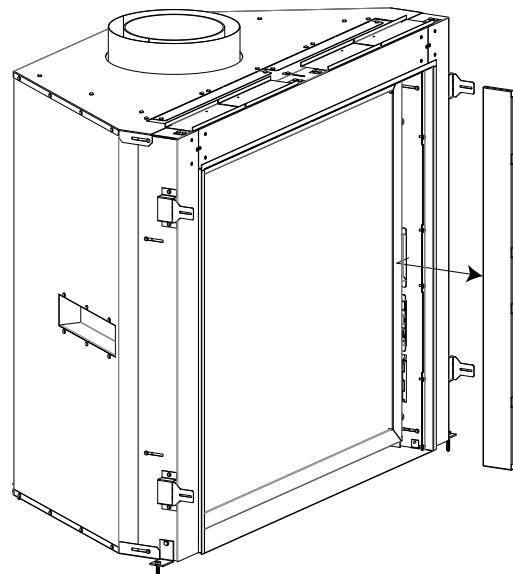

Figure 18: Side Panel Removal
3. A side cover can be found on the inner right side of the unit. It is held in place using two magnets. Gently pull the side panel out and away from the unit (see Figure 18).
- Pressure taps for the inlet (IN) and the manifold (OUT) *see page 48*